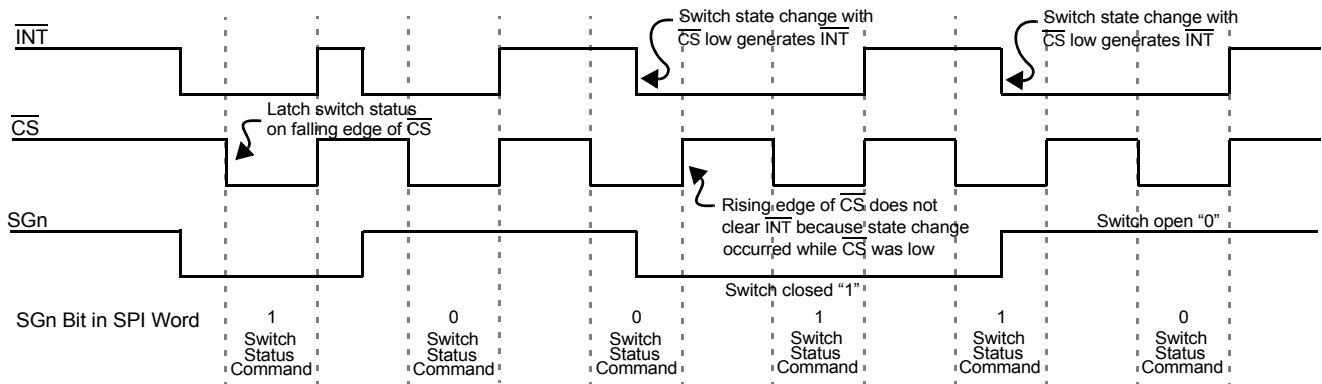

Figure 6. Normal Mode Interrupt Operation
1.  $\overline{INT}$  pin is reset to logic [1], except when additional switch changes occur during  $\overline{CS}$  low (see Figure 6, page 11).